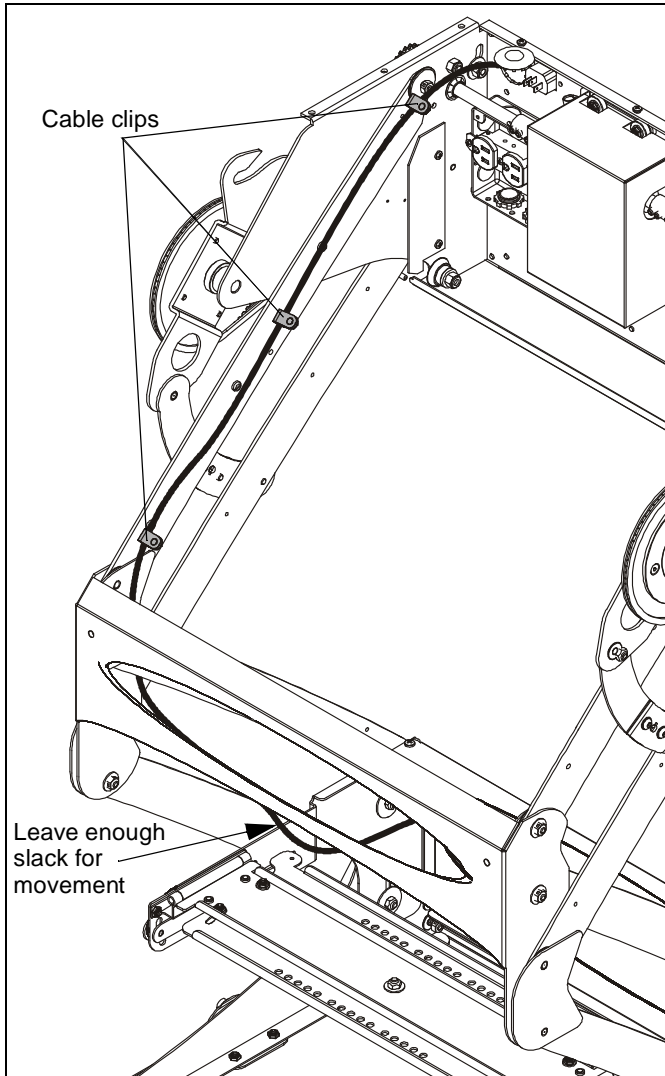

Figure 17
2. Route and secure electrical and video cables using installed cable clips (See Figure 17)
3. Included mounting tabs (F) and cable ties (C) may also be used for securing cables.